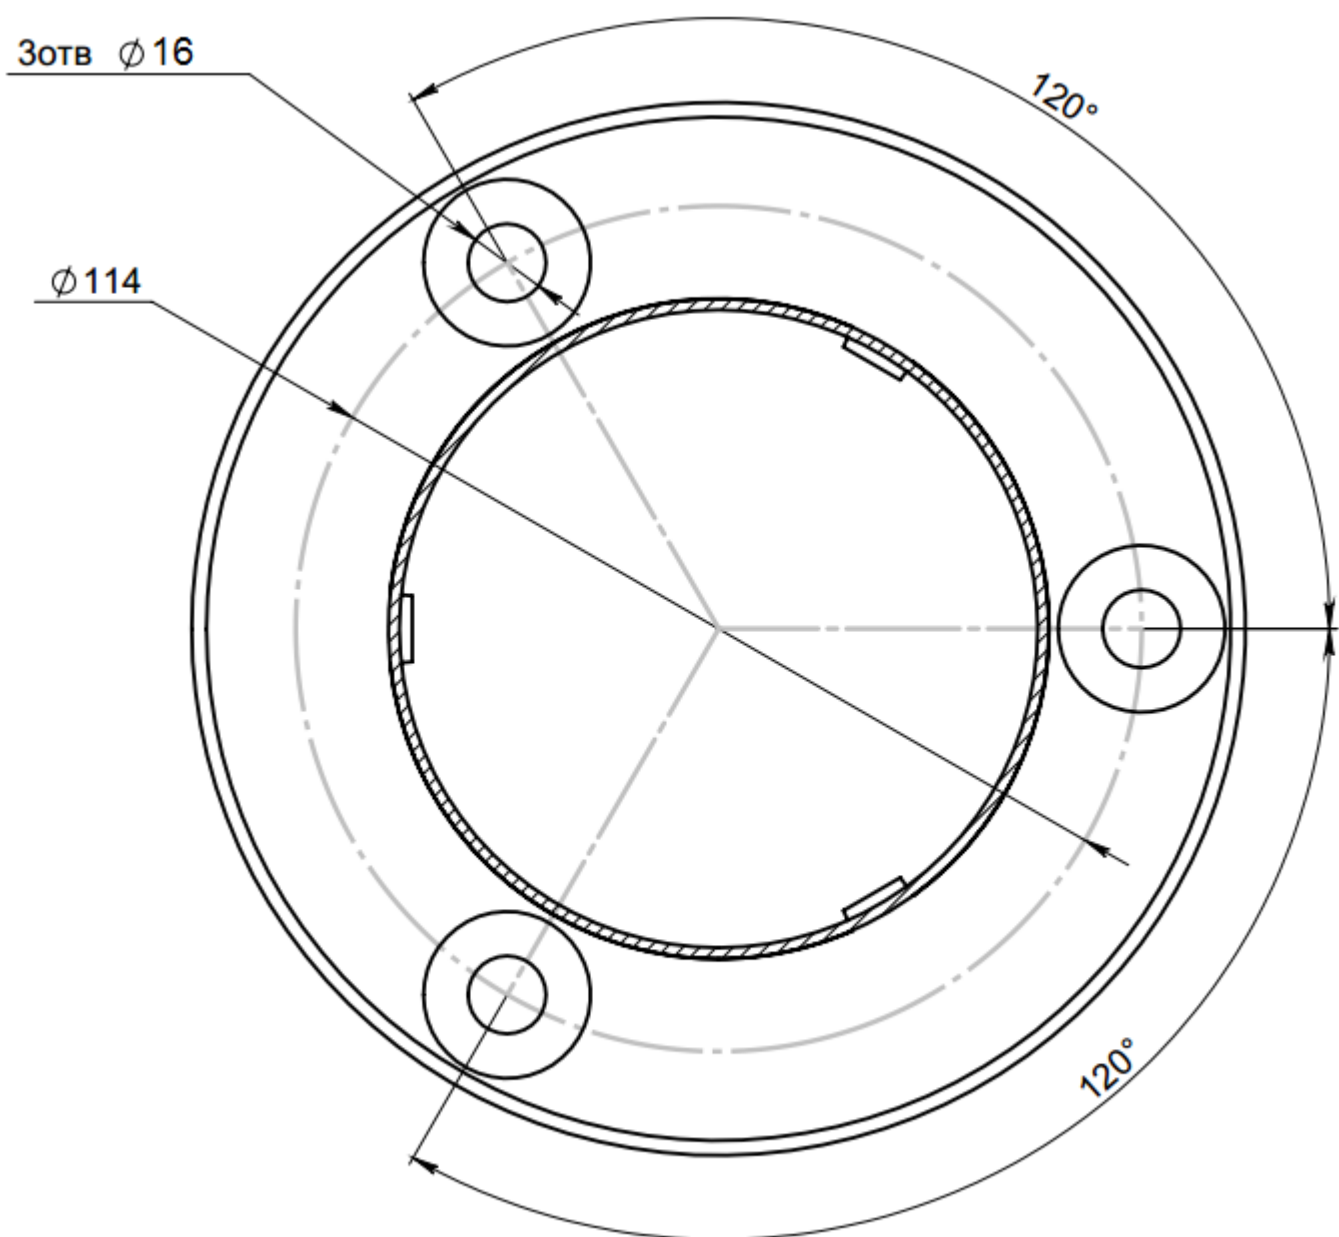

Fig. 3 *Linkage dimension*
7.2.5. Set the stand on prepared area (Fig. 3).